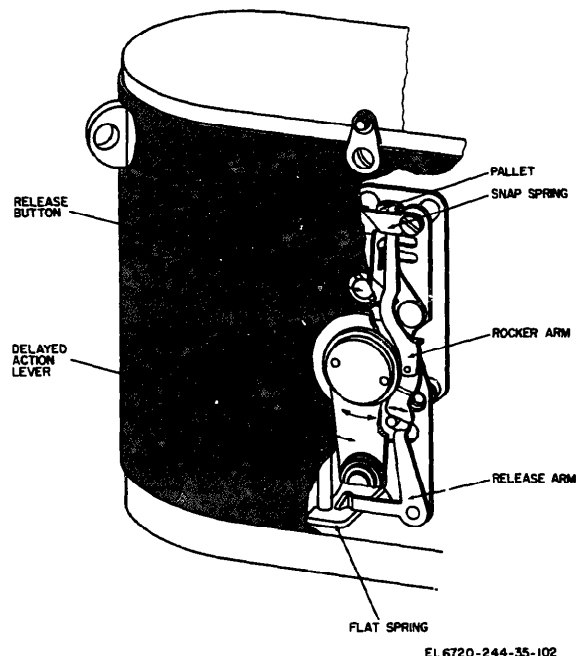

Figure 1-8. Delayed action release operation.
d. *Delayed Action Release* (fig. 1-8). Delayed shutter release is accomplished by a clockwise mechanism which is spring driven. The spring is wound by the delayed action lever on the front of the camera, and the release is activated by depressing a release button.
(1) The wound spring is held under tension by a snap spring. When this is depressed by the release button the spring unwinds, activating a gear train and pallet. The winding gear rotates and a cam, through the rocker arm, moves the release arm. The lower part of the arm depresses the flat spring of the shutter mechanism and releases the shutter.
(2) The extent of the delay is governed by the degree to which the spring is wound.